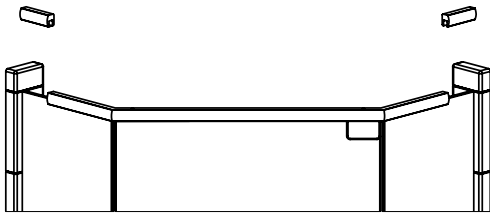

figure 45
8. Locate the header side pieces and apply a 1/4" bead of 100% silicone to the top of the glass channels. Place them into position and push them all the way down onto the glass panels. Be sure to align them to the header center section (fig. 45). Wipe away any excess silicone immediately with a clean cloth.